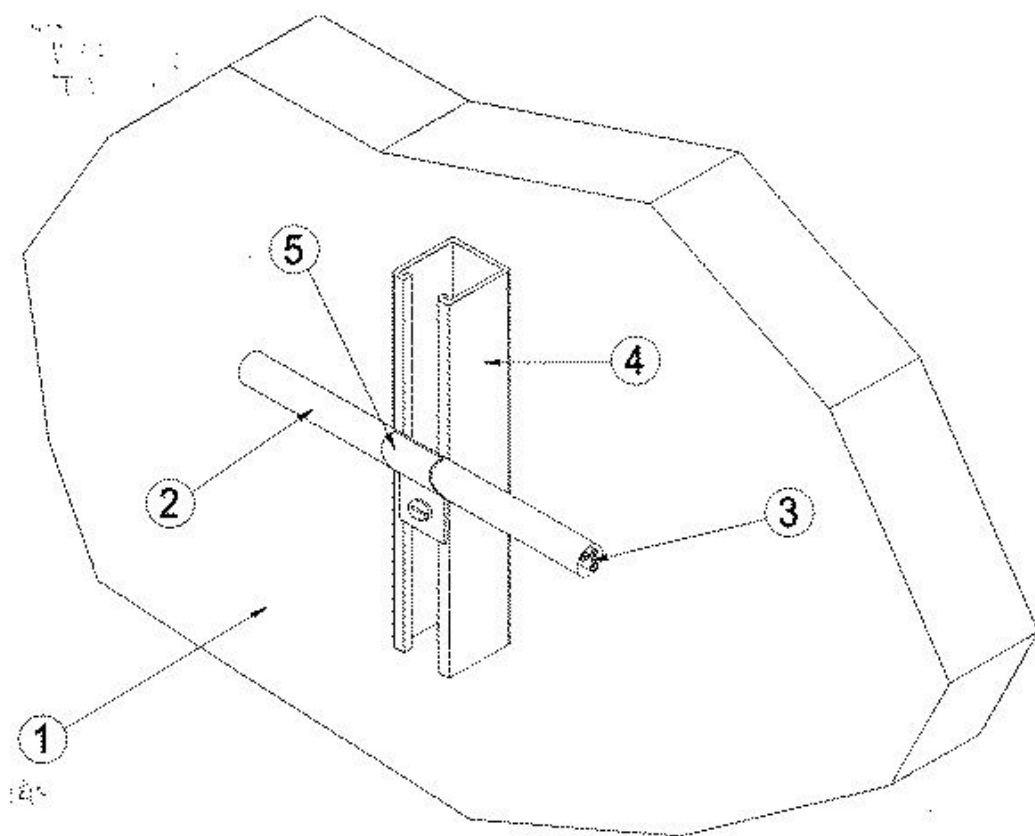

Fig. 1
4. **Supports** — (Figure 1) — Min 12 gauge, by 1-1/2 in. wide or 1-5/8 in wide, painted or unpainted, slotted steel channels with hemmed flange edges. Channel bottom with or without holes. Lengths of slotted steel channels 5 ft and less shall be secured to the wall or floor with a min of two 1/4 in. diameter (or larger) by 2-1/4 in. min long concrete screws, or 1/4 in. diameter (or larger) by 1-3/4 in. long min steel masonry anchors. One screw or anchor to be located at each end of the slotted steel channel. Lengths of slotted steel channel in excess of 5 ft require a min of three screws or anchors, one at each end of the channel and one centrally located within the length of the channel. The supports shall be spaced a maximum of 5 ft. OC. When installing cable(s) in vertical runs, the maximum distance of cable within EMT shall be 37 ft. between terminating points.